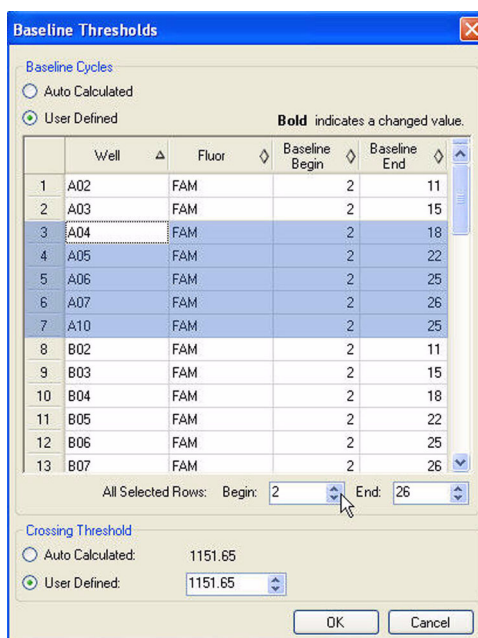

Figure 46. Baseline Thresholds window.
3. Adjust the crossing threshold (Figure 46) for the fluorophore by clicking **User Defined** and entering a threshold number.
The software automatically sets the baseline individually for each well. Once you select the wells for analysis, check the baseline settings in these wells. Open the Baseline Thresholds window (Figure 46) to change the default baseline for selected wells. To open this window:
2. Adjust the **Baseline Begin** cycle and **Baseline End** cycle for all selected wells or change the **Begin** and **End** cycle number at the bottom of the spreadsheet (Figure 46).